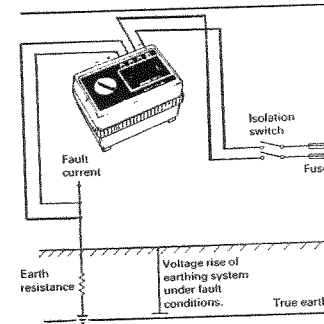

Fig. 3 A method of connection conditions may occur
- h) If a fault occurs while a test is being made the instrument may be damaged. Incorporating fuses at the isolation switch, of rating 100 mA and able to cope with the maximum fault voltage, will provide some protection for the instrument (see Fig. 3).